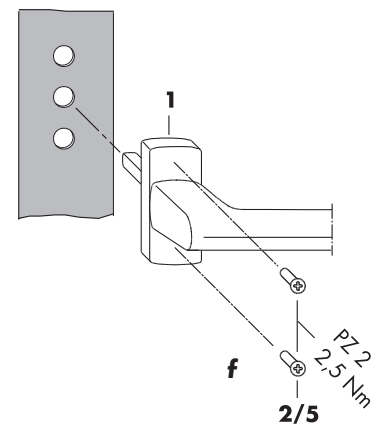

Figure 4
- f Screw on window handle (1) using countersunk screws M5 x 35 (2/5) (PZ 2, torque 2.5 ± 0.25 Nm) (Figure 4).